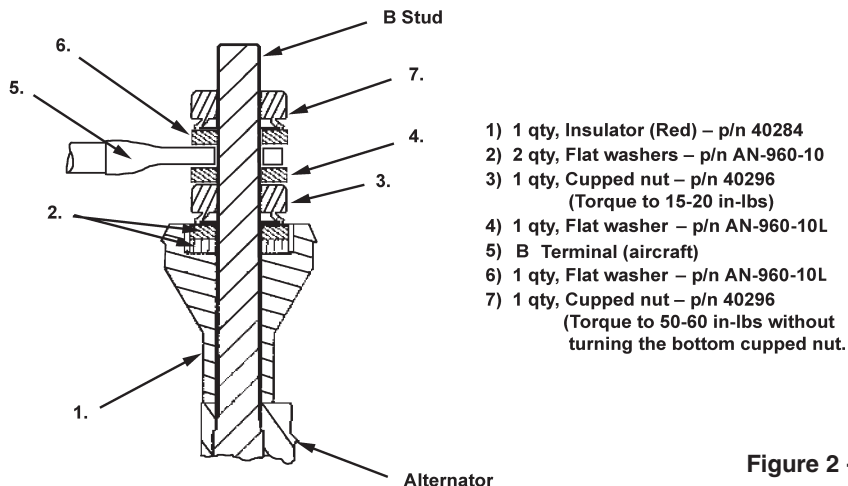

Figure 2 - B Terminal
7. Install the red insulator (1) and two flat washers (2). Install cupped nut (3) and torque to 15 - 20 inch-pound. (1.69 - 2.26 N-m) Refer to Figure 2.
8. Install flat washer (4), aircraft output "B" terminal (5) and flat washer (6). Install cupped nut (7) and torque to 50 - 60 inch-pound. (5.65 - 6.78 N-m) **It is imperative that the bottom cupped nut be held in place while the top cupped nut is being torqued to prevent damage or under torque. (Use a wrench of no more than .25 in. thickness on bottom nut.)** Refer to Figure 2.